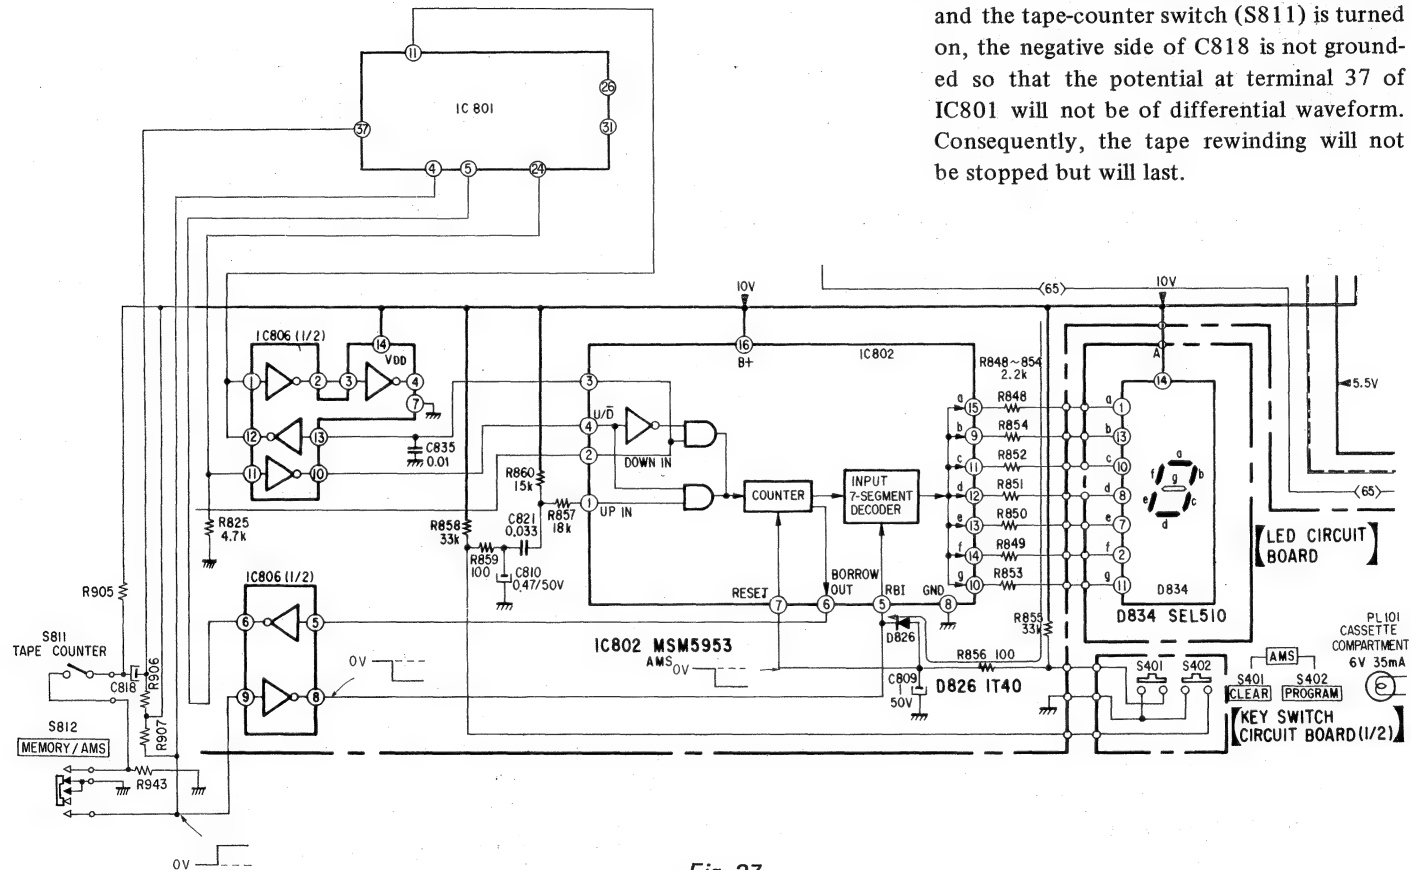

Fig. 27
3. When MEMORY/AMS switch (S812) is set to OFF position (See Fig. 27)